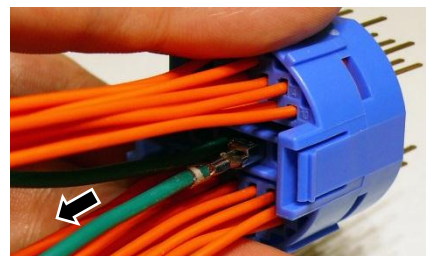

Figure 11
3. Insert the tip of the removal tool into the opening above the terminal to be removed, and depress the terminal locking lance. Then gently pull the wire of the terminal to be removed until the terminal is out of the terminal block. See Figure 11.